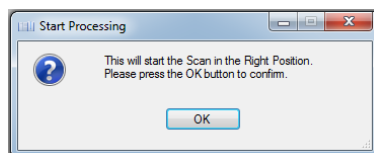

Figure 54 Start scan confirmation message
10. A Start Processing confirmation message appears (Figure 54). Click **OK** to continue.